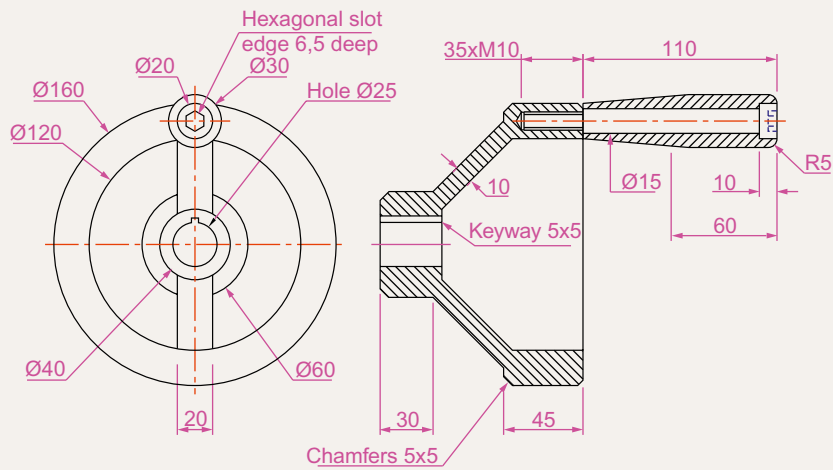
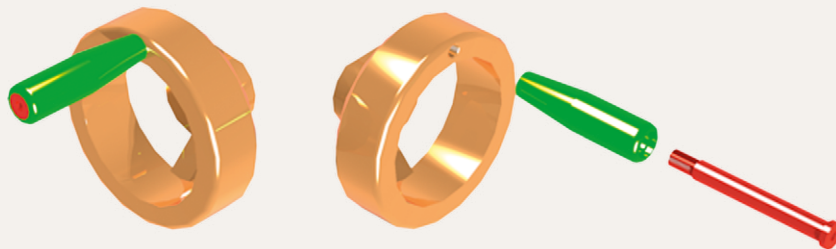

Fig. 19.28 Exercise 6 – details drawing
Fig. 19.29 Exercise 6 – renderings
- Working to the details shown in Fig. 19.28, construct a 3D model of the parts of the wheel with its handle. Two renderings of 3D models of the rotating handle are shown in Fig. 19.29, one with its parts assembled, the other with the parts in an exploded position relative to each other.